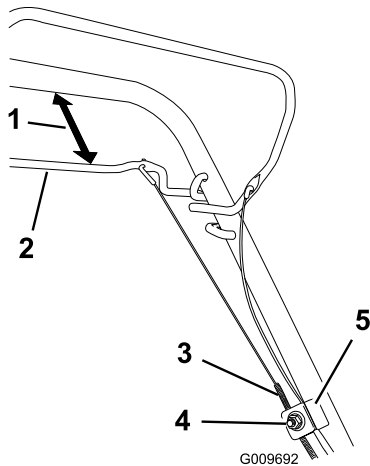

Figure 33
1. Loosen the cable-support nut (Figure 33).
2. Hold the self-propel drive bar 25 to 38 mm (1 to 1-1/2 inches) from the handle (Figure 33).
3. Pull down the cable jacket (toward the machine) until there is no slack in the cable (Figure 33).